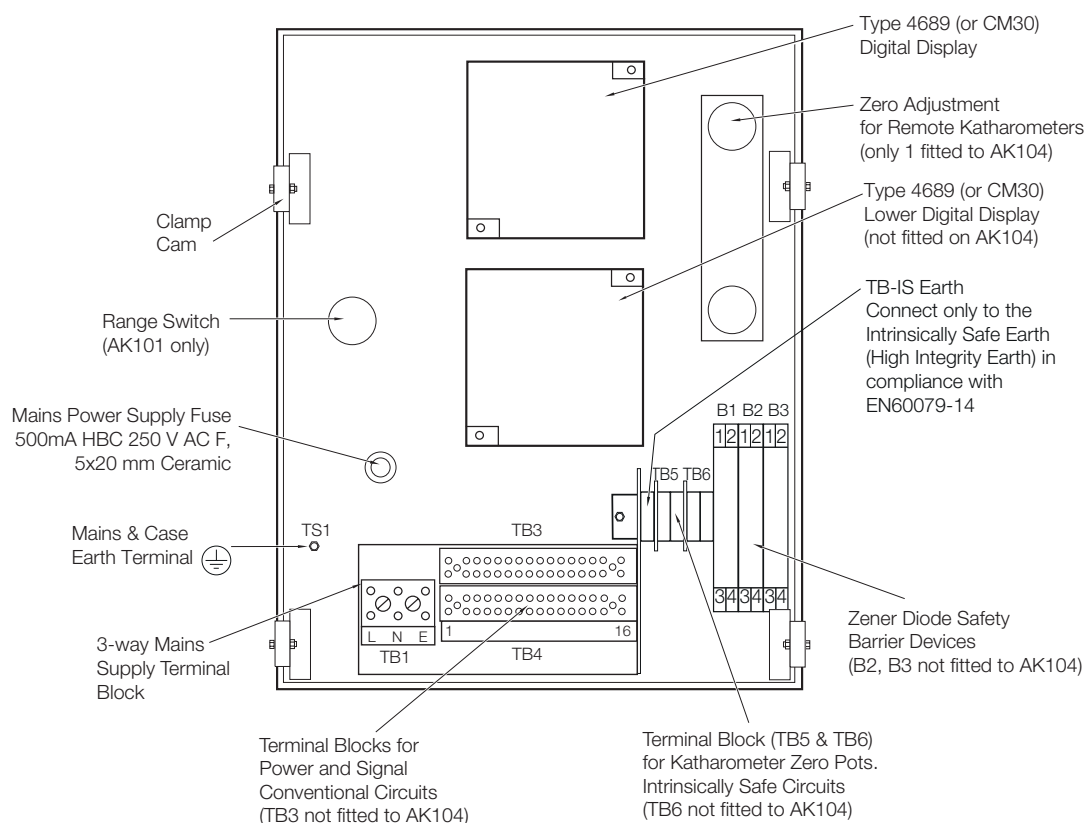

Fig. 5.5 Location of Components Inside Case (Rear View) – Models AK101 and AK104 Display Units
5.1.1 Model 6553 Display Unit – Fig. 5.5
Make electrical connections through the bottom of the unit into the terminal blocks immediately above them – see Fig. 5.5.
Make the Earth (Ground) and **Safety Earth** connection at the stud (TS1) – see Fig. 5.5.